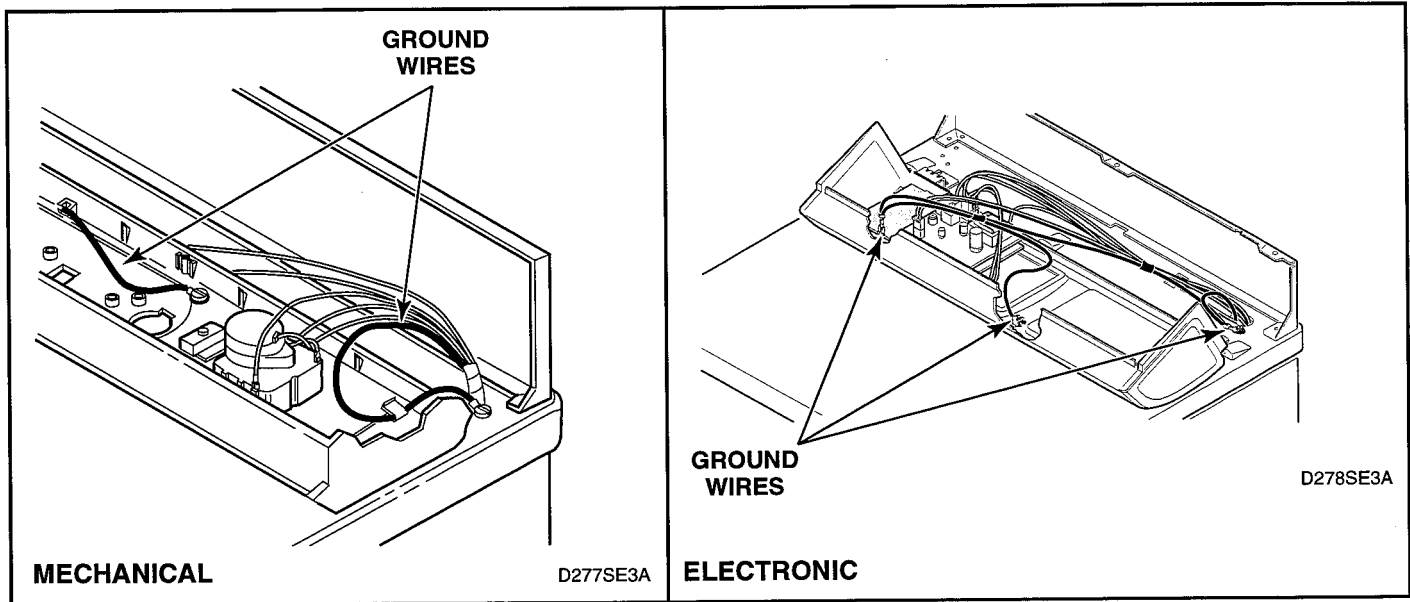

Figure 4-3
3. **GROUND WIRES FROM REAR BULKHEAD TO TIMER MOUNTING BRACKET AND TO DRYER CABINET TOP. GROUND WIRES FROM TIMER MOUNTING BRACKET TO GRAPHIC PANEL (Mechanical Timer Models Only – Figure 4-3).**
**GROUND WIRES FROM REAR BULKHEAD TO DRYER CABINET TOP TO ELECTRONIC CONTROL AND TO GRAPHICS PANEL (Electronic Control Model Dryers – Figure 4-3).**